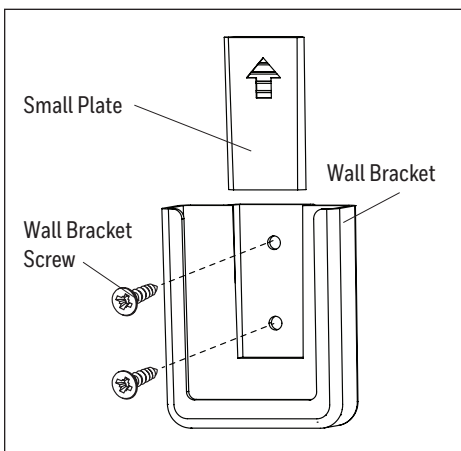

Figure 4.7
7. Remote control comes equipped with a wall bracket. If you wish to install the wall bracket, remove the small plate to expose the screw holes. Insert wall bracket screws through holes and into wall, then cover with the previously removed small plate. The remote can be stored in the wall bracket for easy access (Figure 4.7).